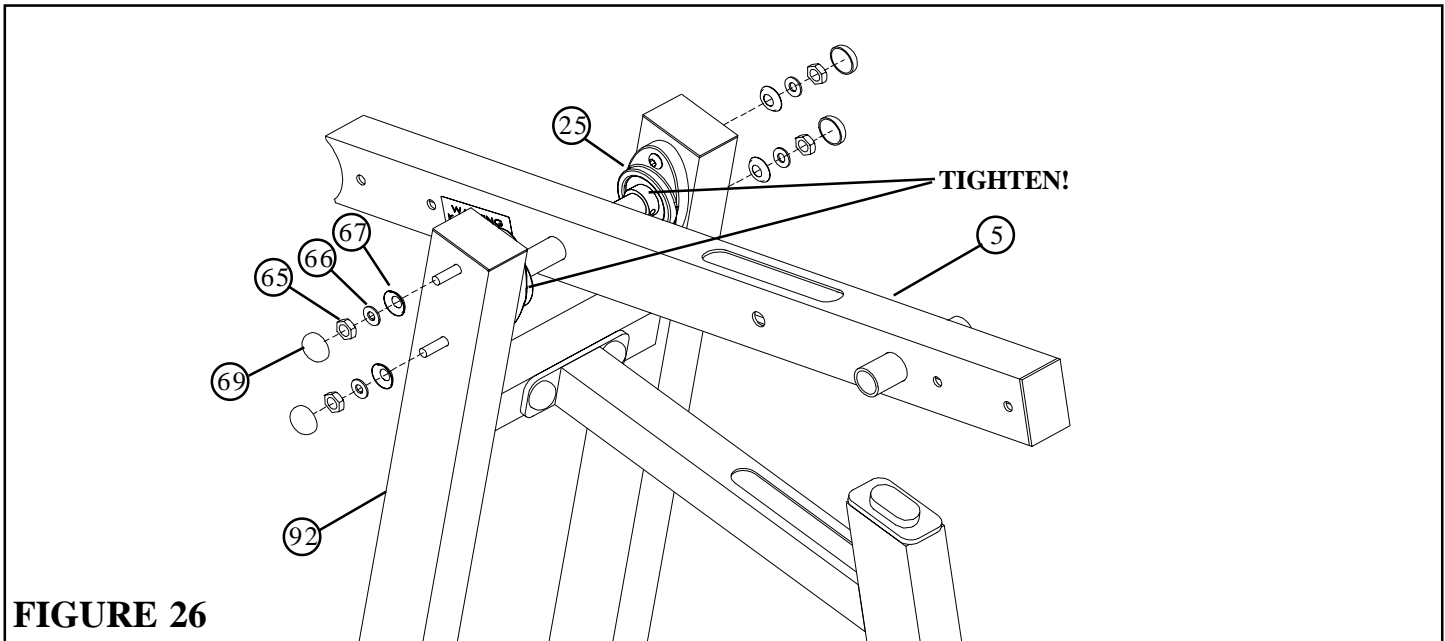

FIGURE 26
- **SECURELY** assemble the PIVOT ARM (5) to the LEG CURL/EXT FRAME (92) using four previously inserted 3/8 X 76mm BUTTON HEAD BOLTS (63), four RH WASHERS (67), four 3/8 SAE WASHERS (66), four 3/8 LOW HEIGHT LOCK NUTS (65) and four RH CAPS (69) as shown in FIGURE 26.
- **IMPORTANT!** When PIVOT ARM (5) is centered and level in the PILLOW BLOCKS (25), tighten the PILLOW BLOCK set screws.